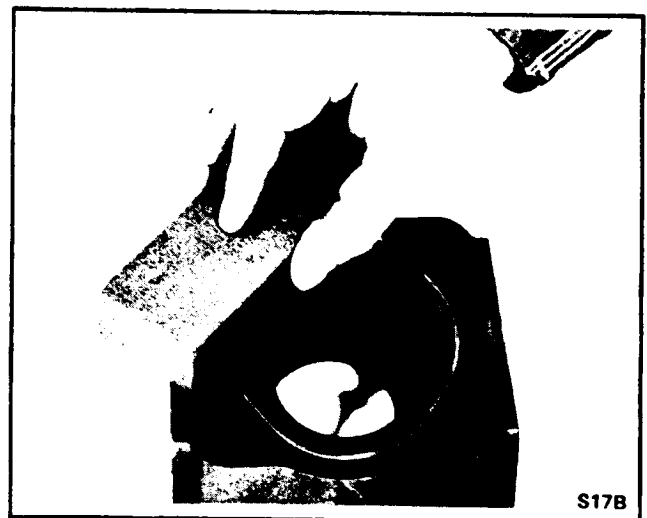

Fig. 19 - Stoning Off Machined Surfaces
16. Stone off all machined surfaces with a medium grit carborundum stone. See Fig. 19.